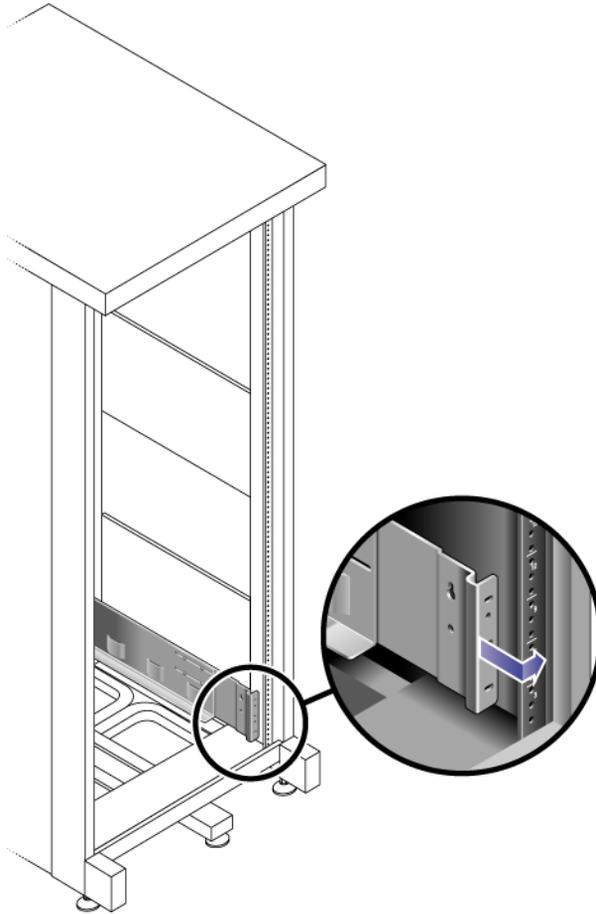

FIGURE 2-5 Adjusting the Length of the Left Rail at the Back of the Cabinet
4. At the back of the cabinet, adjust the length of the left rail as needed to fit the cabinet, and position the rail flange over the face of the cabinet rail (FIGURE 2-5).